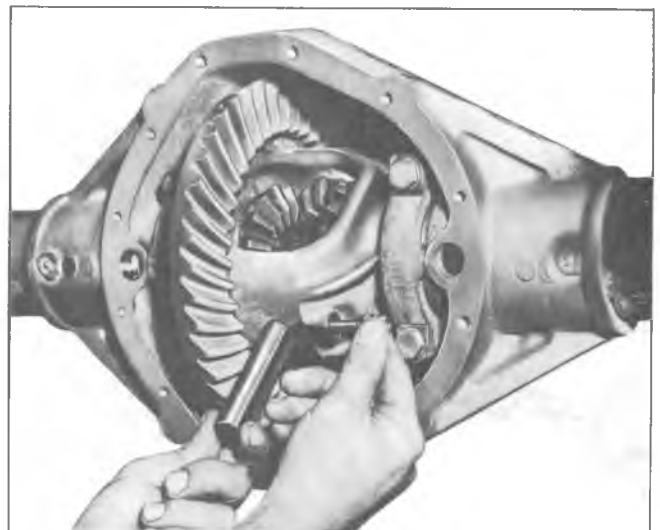

Fig. 18—Differential Pinion Shaft Removal
4. Remove the differential pinion shaft lockscrew and the differential pinion shaft (fig. 18).